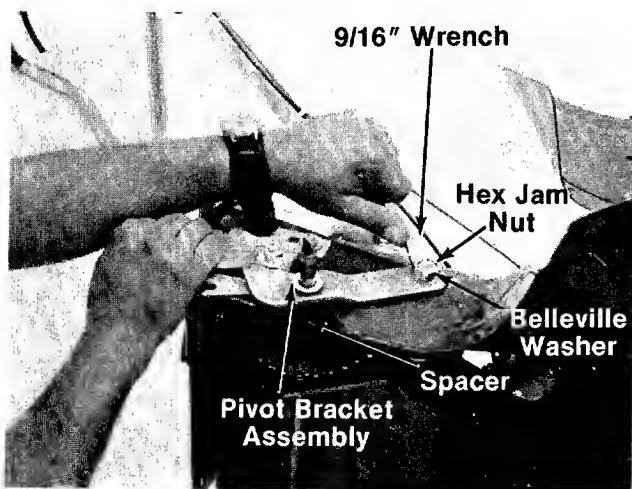

FIGURE 22.
7. Remove the pivot bracket assembly. A 9/16" wrench is required. Remove the hex lock nut as shown in figure 22.
8. Lift off the pivot bracket assembly and spacer. See figure 22.